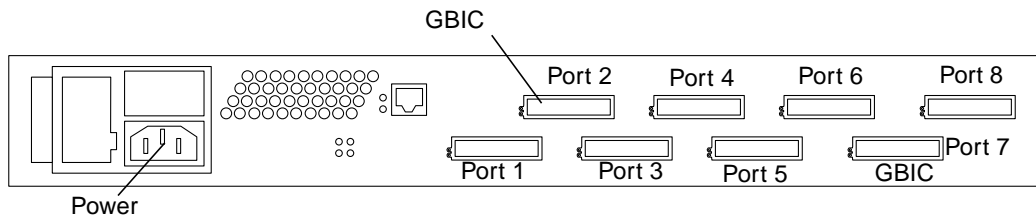
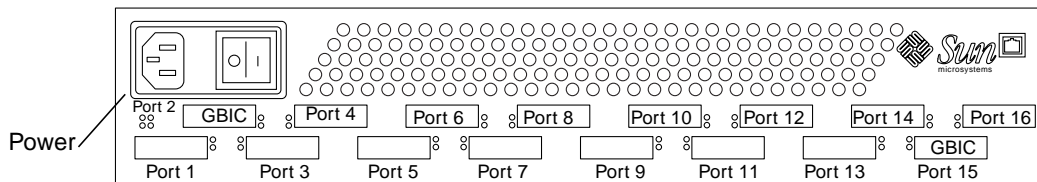
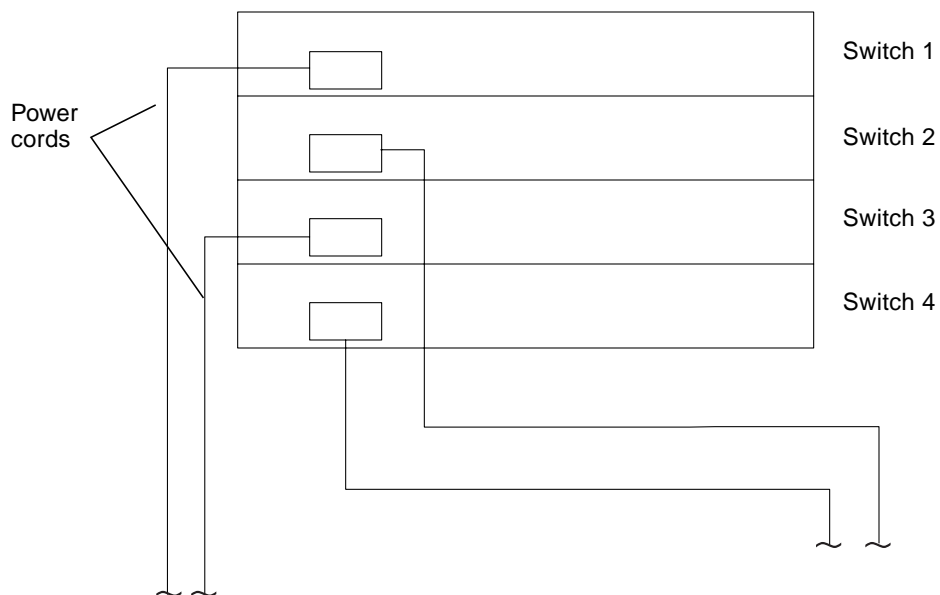

FIGURE 3-8 Sun StorEdge network FC switch-8 Switch Rear View
FIGURE 3-9 Sun StorEdge network FC switch-16 Switch Rear View
FIGURE 3-10 Power Connection for Two or Four Switches
1. Working from the back, connect the power cord(s). (See FIGURE 3-8, FIGURE 3-9, and FIGURE 3-10).